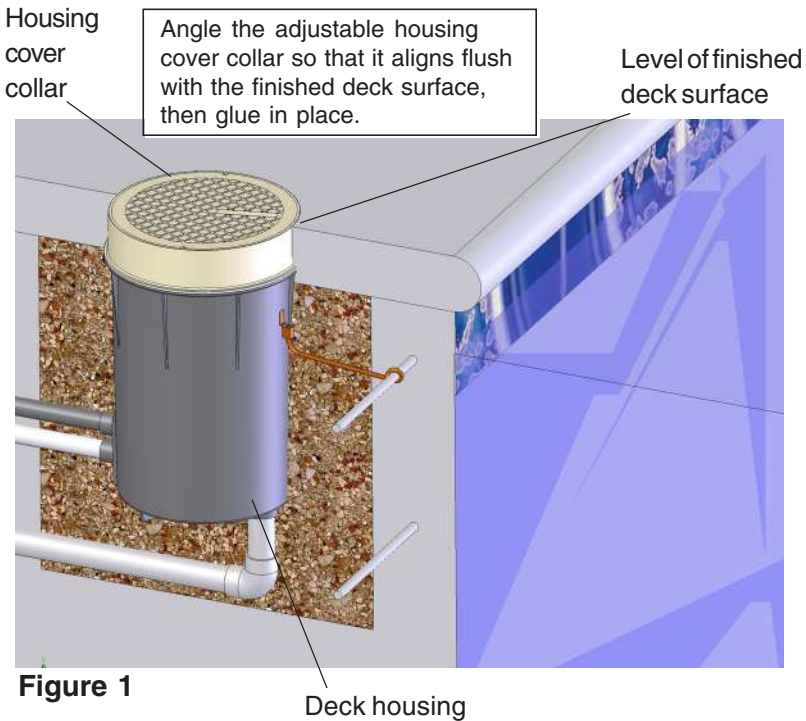

Figure 1
3. Anchor the deck housing so that the top of the housing cover collar is at the level of the finished deck (Figure 1). The adjustable collar should be angled so that it will align flush with the finished deck surface. Once you have made the final adjustments to the collar's angle, glue the collar to the deck housing.